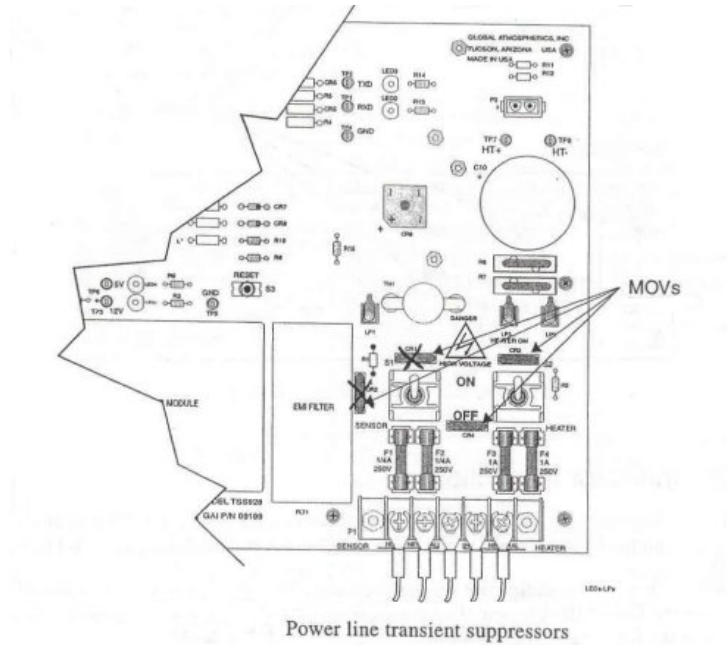

Figure 1-11. Power/Comm Board Transient Suppressor locations
- o. Inspect the Power/Comm Board for damage to MOV transient suppressors, (Figure 1-11) CR1 and CR2 may not be installed. Burn marks, cracking and/or external carbon are signs of failure. (MOV damage is cumulative. Eventually, components will fail short, and will open the fuse.) Replace sensor if damaged.